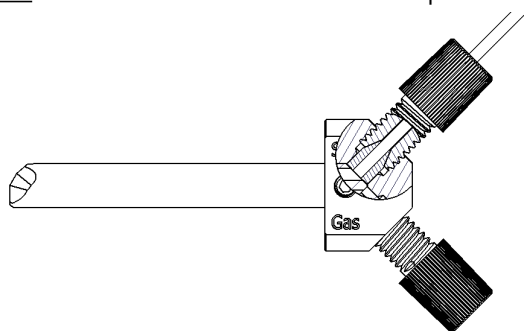

Figure 3 (Housing partially sectioned)
3. Insert Ferrule end of Adaptor Tube into the Housing port (Marked 'Sample') and tighten the Ratchet nut. The Ferrule is now sealed against the Nebulizer Body – Refer figure 3